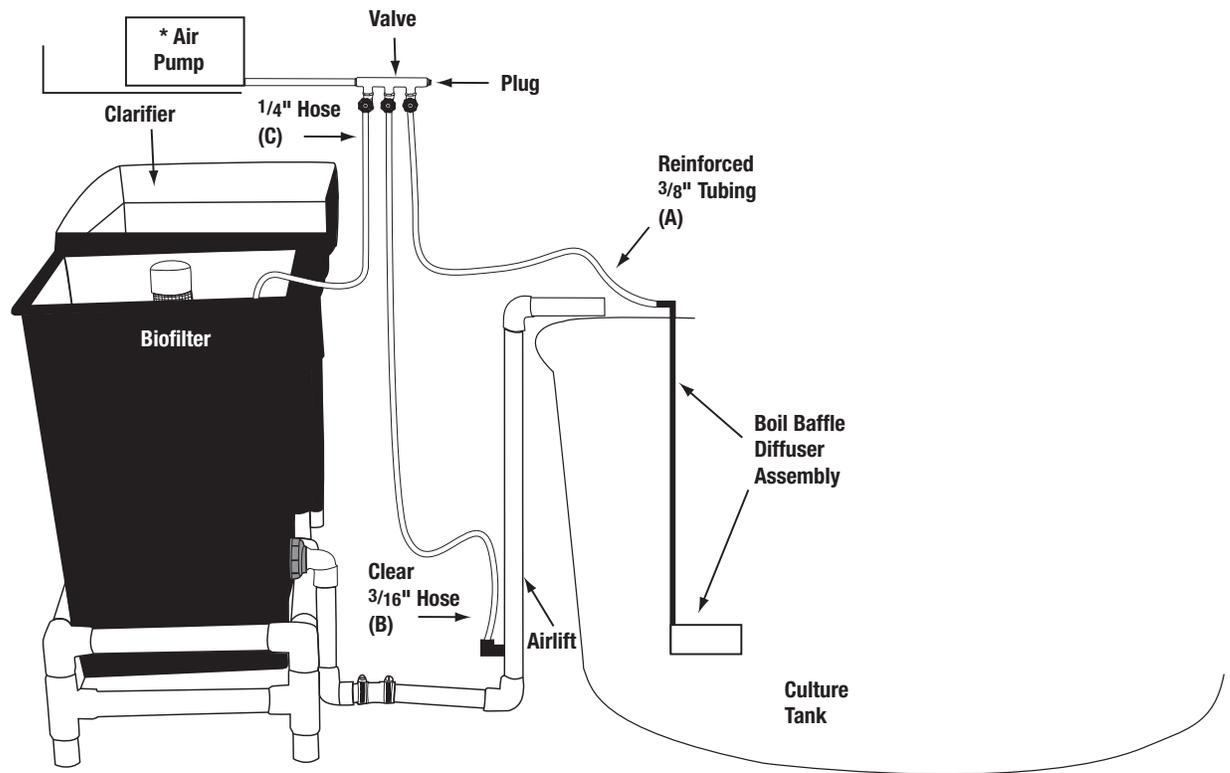

Fig. 8
- H. **Air Compressor:** For safety reasons, we recommend that the air compressor be placed higher than—and away from—the Fish Farm™. Installation above water level will prevent water from back siphoning into pump in the event of a power outage. The hose assembly should be connected. The 3/8-inch reinforced hose should be attached to the Boil Baffle Assembly [A of Fig. 8], and put the other end into its respective nipple on the manifold. The smaller clear hose should be connected to the airlift [B]. Match the other end to attach to the corresponding nipple on the 3-way air manifold. The other clear hose (1/4") connects to the 3" x 3" square diffuser, which is to be placed in the bottom center of the biofilter tank, and the other end into its nipple on the manifold [C].